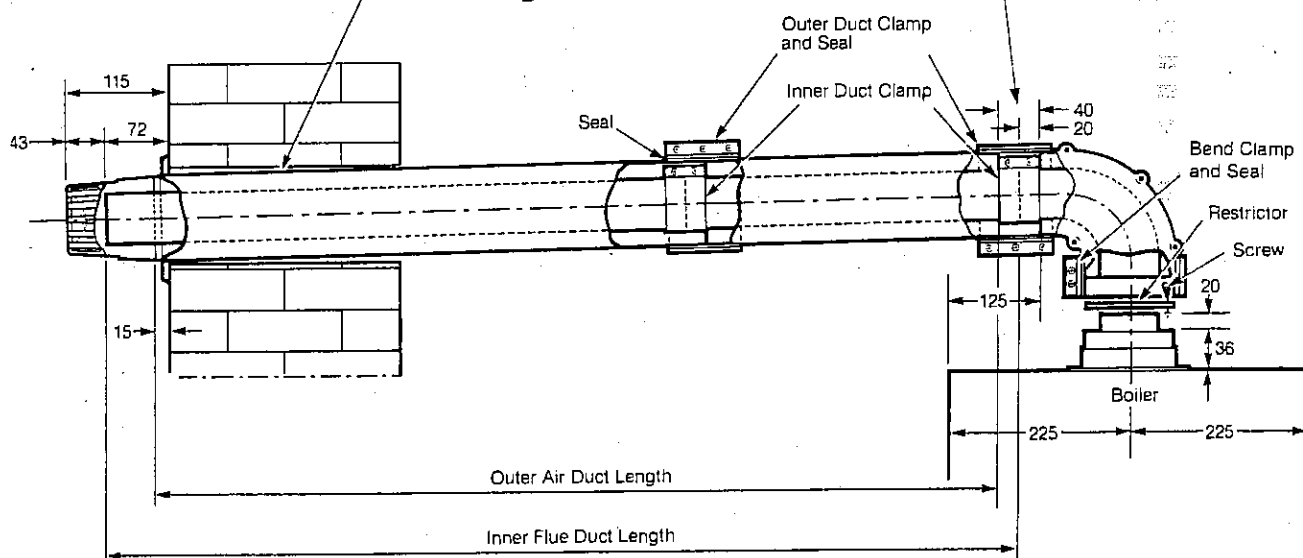

Fig. 12 - Side flue
2. If the flue is more than 1 m, the restrictor must be removed from the flue adaptor (see Fig. 12), by removing the screw and lifting out the restrictor.